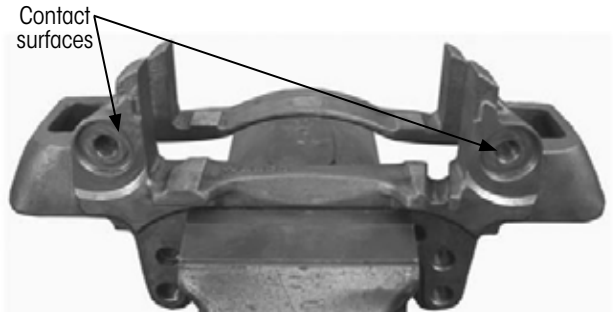
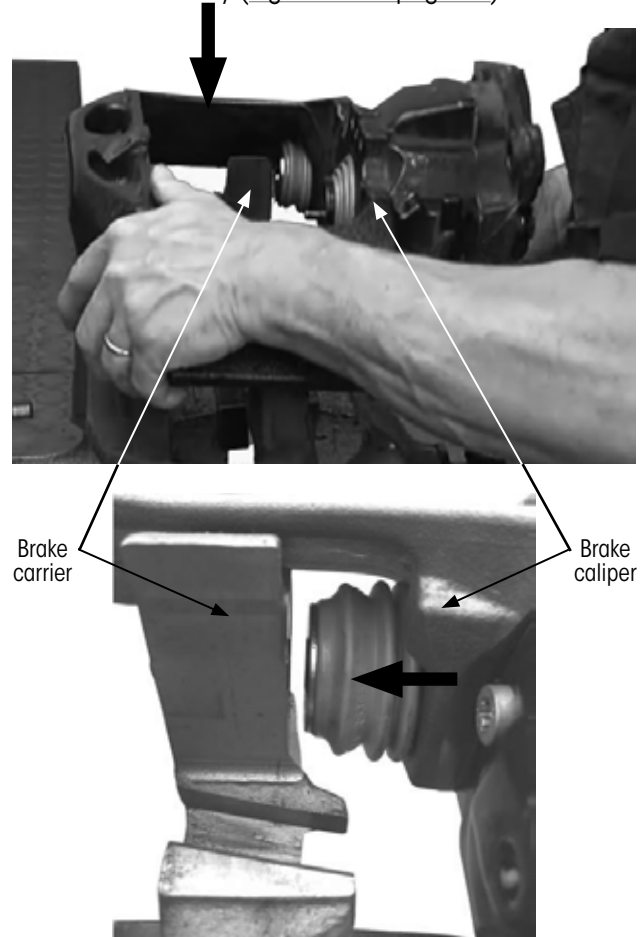

Figure 55: Guide pin contact surfaces
Figure 69: Installing caliper onto brake carrier
1. **Place** the brake caliper on the brake carrier with guide pins aligned to contact surfaces (Figure 69 and Figure 55 on page 26).